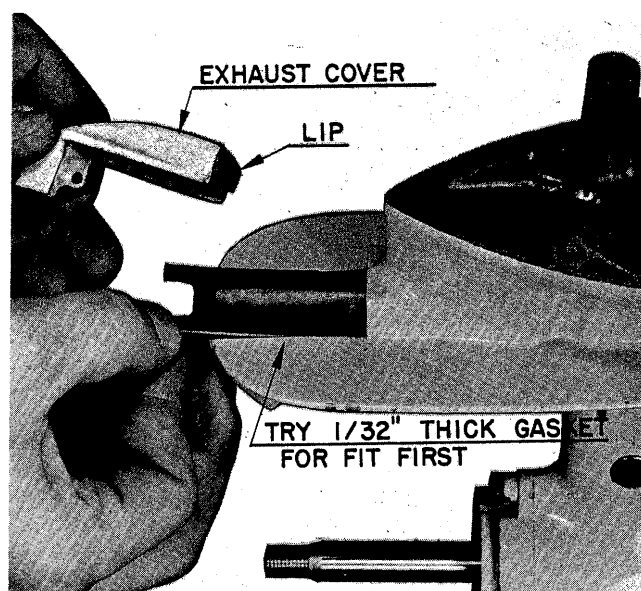

Figure 8
3. Place 1/32" gasket over exhaust outlet passage (Figure 8) and engage cover's front lip with gearcase, pulling down on cover to align rivet holes. Gasket must be compressed slightly in the process to be suitable for use. If gasket has not been compressed when rivet holes are in alignment, replace 1/32" gasket with 3/64" size. After determining which thickness gasket is required, coat both sides of gasket with Perfect Seal #4 prior to final assembly.